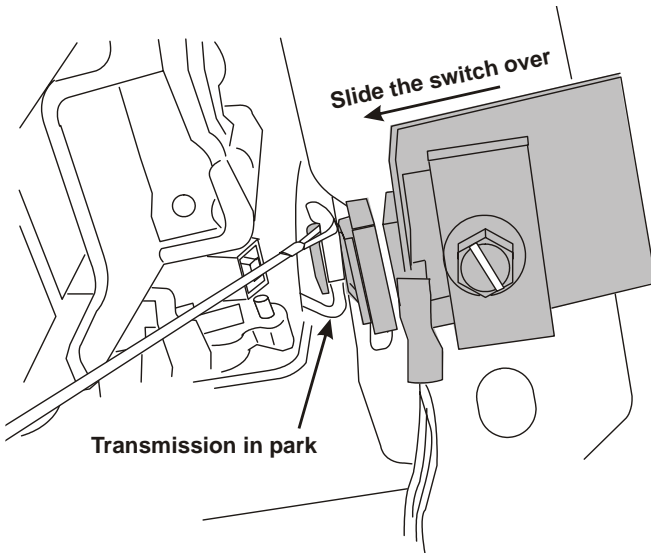

Figure 4.5
- ☐ Slide the switch to the magnet and align the two pieces. This alignment does not need to be perfect and the magnet and switch should not quite touch (Figure 4.5). Tighten the screw with a screwdriver.